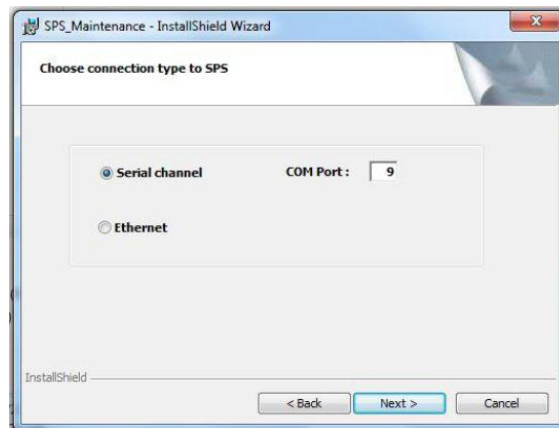

Figure C-4: Vaisala Configuration Setup
11. A Vaisala configuration setup screen will appear. Select **Serial Channel** connection type, and select: **COM Port**. Enter **9**. Click **Next** (Figure C-4).